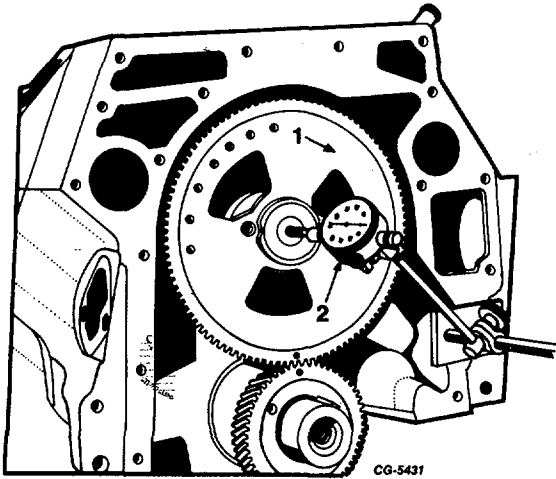

Fig. 139 Checking Camshaft End Play
5. With the use of a dial indicator, check the camshaft end play, Figure 139. See "Specifications." If the end play exceeds the limits, replace the camshaft thrust flange.